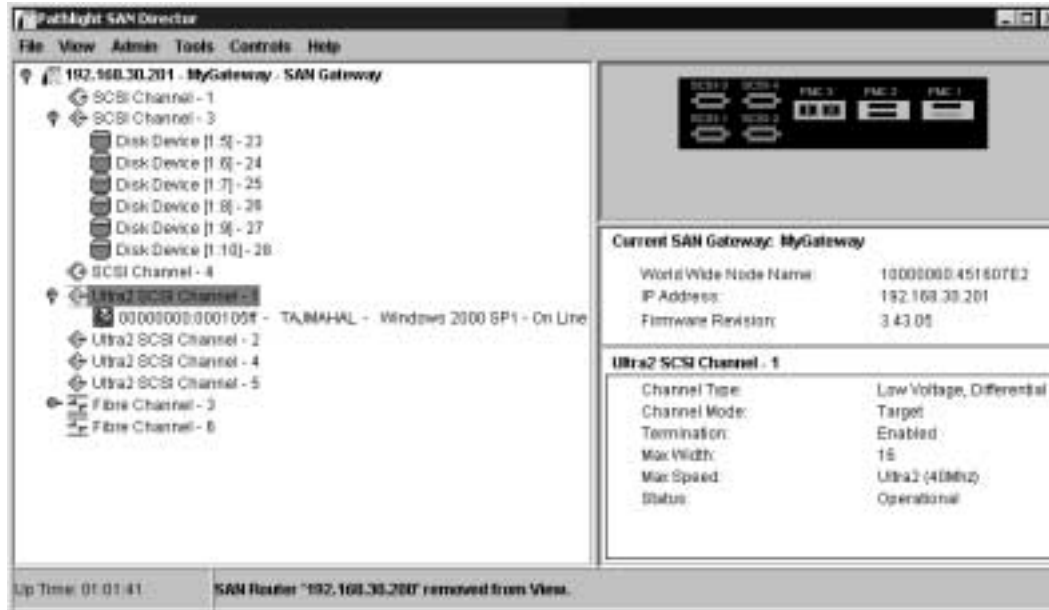
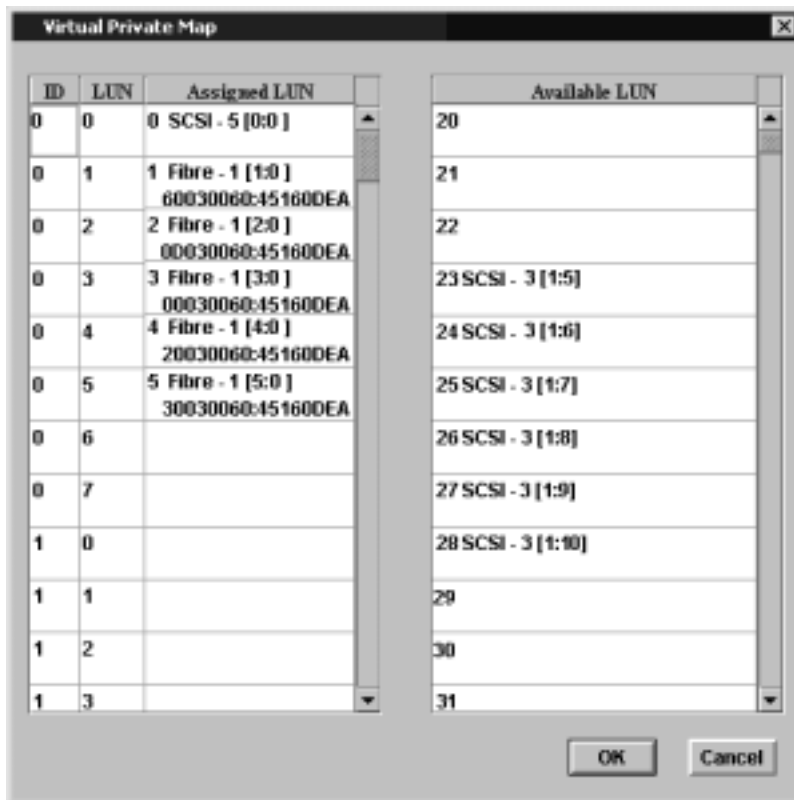

Figure 7-4:SCSI Devices Available for Mapping
Figure 7-5:Initial VPM Mapping Window (SCSI Devices)
2. After the VPM feature is enabled, select the SCSI channel where the host attaches and check the channel mode display in the right-hand panel to be sure it is set to Target. See Figure 7-4.
displayed in the Virtual Private Mapping window. The SCSI devices shown in Tree View in Figure 7-4 are shown in the VPM window in Figure 7-5.
- In Figure 7-5 you can see how these devices look to the ADIC Gateway before they have been assigned to a SCSI host channel. You have to use the scroll bar to get down to the LUN numbers that they are using.
- The ADIC Gateway's persistent device map contains the product ID, Vendor ID and Serial Number of SCSI devices it knows about. This information can be read in the Data panel of the ADIC Management Console when the device is highlighted in Tree View (see Figure 7-4).
When the SCSI devices are read by VPM, only the assigned LUN, the SCSI channel, the target ID, and the target LUN are displayed (see Figure 7-5).